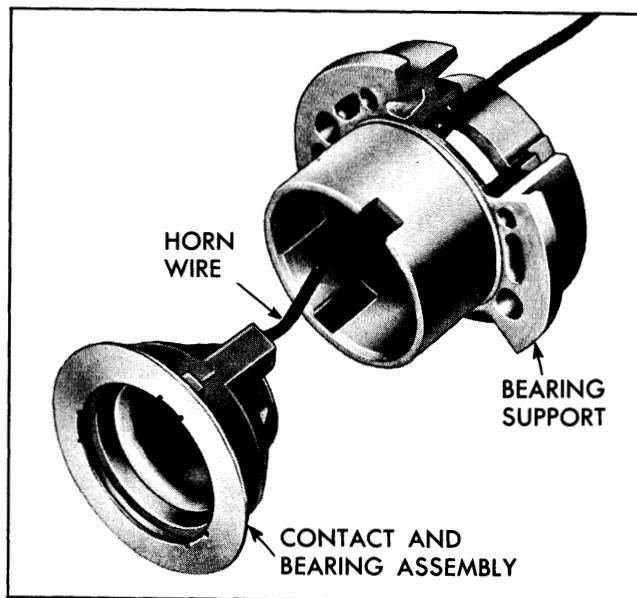

Fig. 11-71 Horn Contact and Bearing Support
1. Install horn wire and contact assembly in end of bearing support (Fig. 11-71), snaking wire through outer slots of bearing support lock plate and